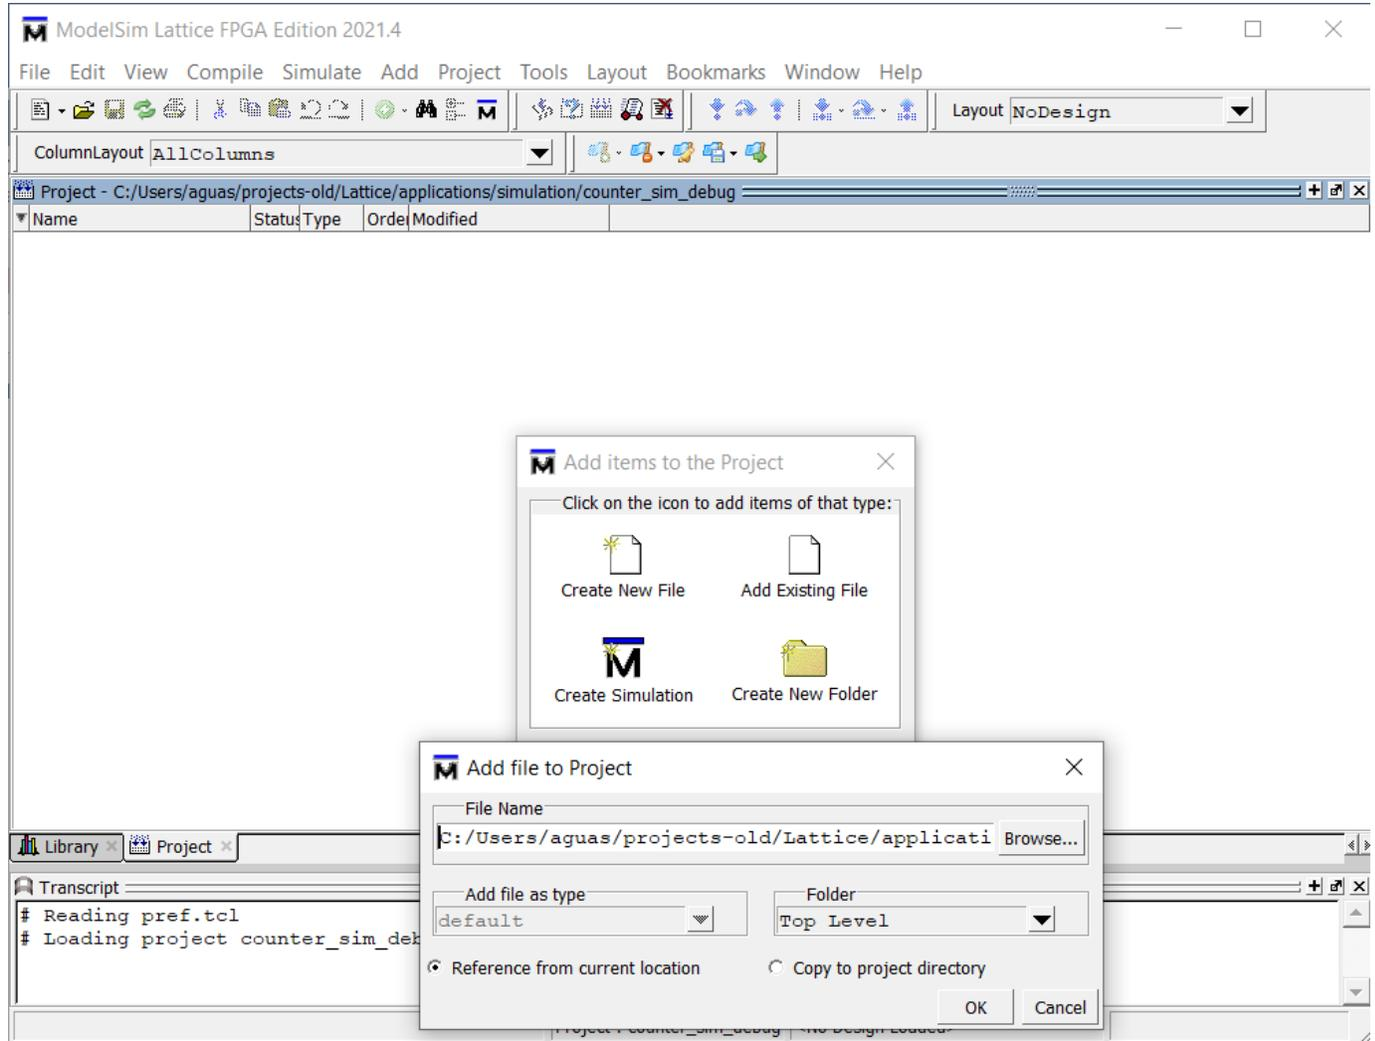

Figure 4: Adding Files to the Project
5. Click **Add Existing File** and add **counter.v** and **tcounter.v** from <project dir>\Lattice\basicSimulation, see **Figure 4**.